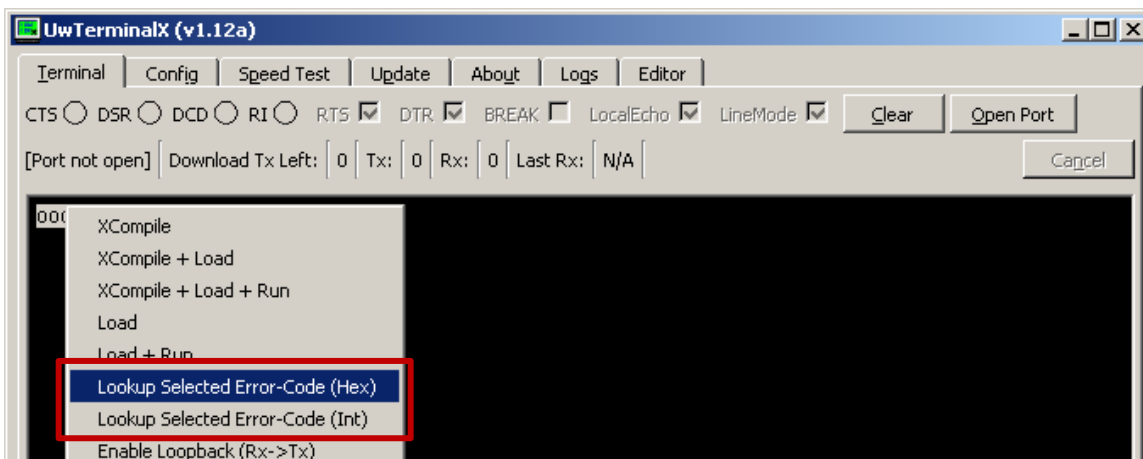

Figure 2: Lookup Selected Error-Code
2. Right-click and select **Lookup Selected Error-Code**. Note both the hex and decimal options (Figure 2).